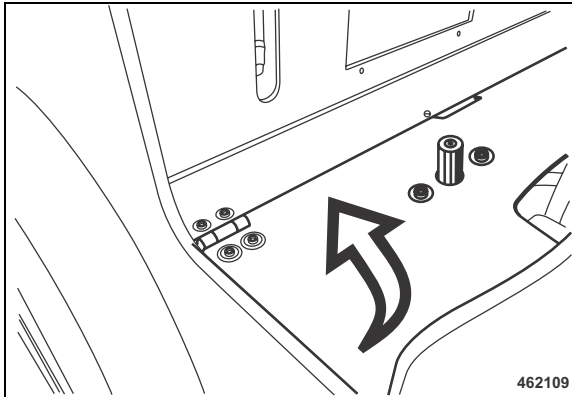

Fig. 59
- Fold the cover on the battery compartment (Fig. 59) to the front.